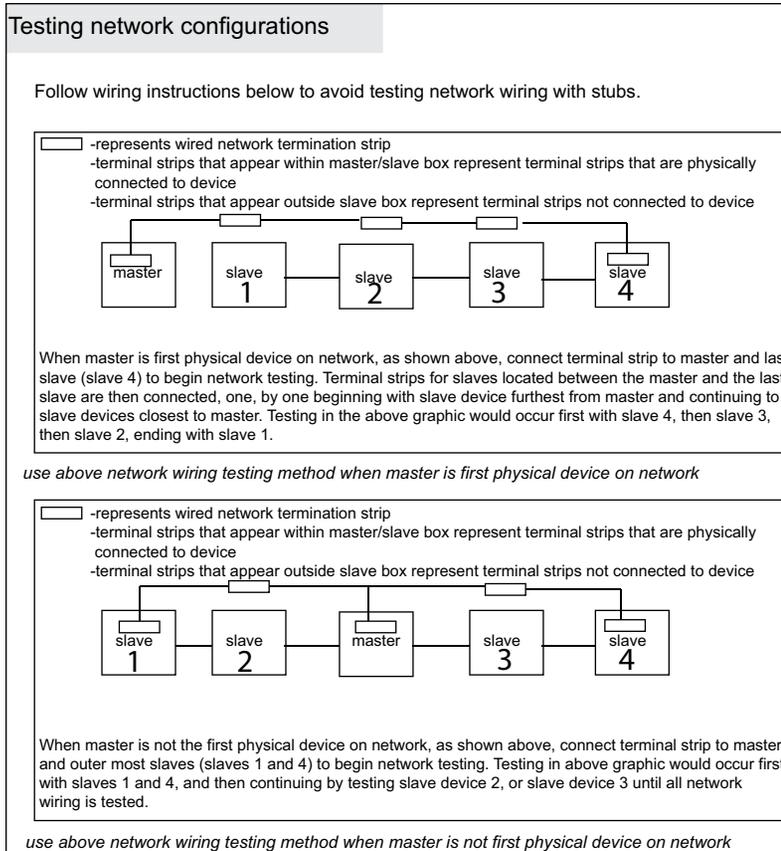

Figure 3.29
- \*For testing - If the master is not the first physical device on the network, place network terminal strip on the master and on the first and last physical devices on the network. (In this case two slaves will need to be tested at the same time.) - figure 3.29.